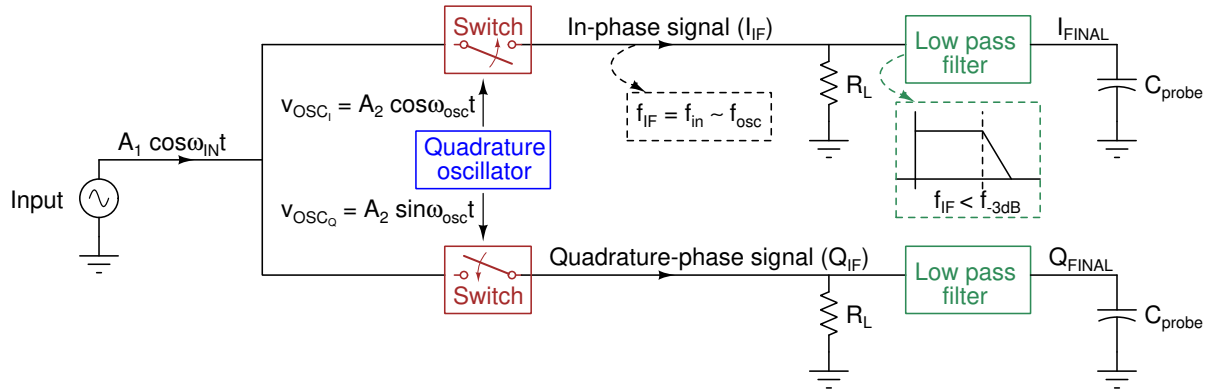

Figure 1
Fig. 1 depicts a quadrature down converter (QDC) that is commonly used in modern day wireless receivers (RX) such as Bluetooth, Wi-Fi and WLAN. Quadrature downconversion helps in interference mitigation and improves the quality of communication. In this project, we will implement a prototype of QDC for given specifications.
As shown in Fig. 1, the input signal $v_{in} = A_1 \cos \omega_{in} t$ is mixed with $v_{OSC_I} = A_2 \cos \omega_{OSC} t$ and $v_{OSC_Q} = A_2 \sin \omega_{OSC} t$ to produce in-phase (v_{IF_I}) and quadrature-phase (v_{IF_Q}) intermediate frequency (IF) signals, respectively. The in-phase and quadrature-phase signals have a phase difference of 90°. Mixing of two signals is equivalent to their multiplication as shown below.
As shown in Fig. 1, the mixed signal is fed a low pass filter to pass only the IF signals with frequency $\omega_{IF} = (\omega_{IN} - \omega_{OSC})$, which can be sufficiently low value for sufficiently high values of ω_{IN} and ω_{osc} . For example, if $f_{IN} = 2.4$ GHz and $f_{osc} = 2.401$ GHz, then $f_{IF} = 1$ MHz.
Connect all building blocks (oscillator, mixer, filter) and make the complete circuit shown in Fig. 1. Clearly show and tabulate all component/supply values in the schematic.